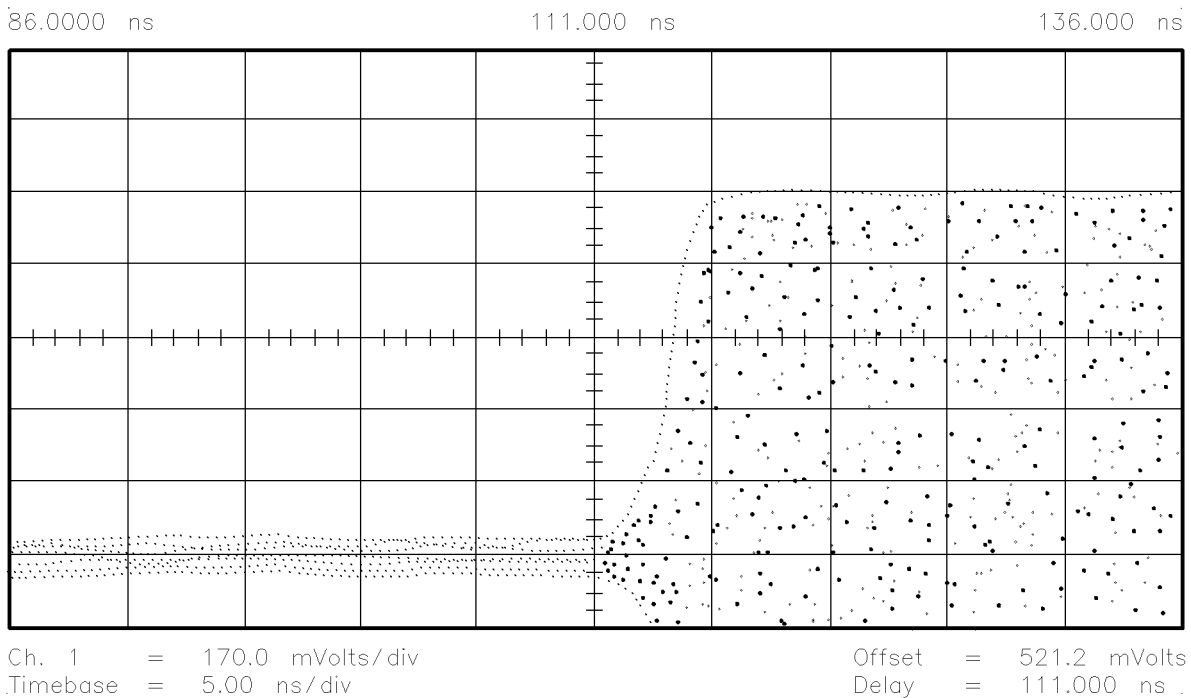

Figure 2-16. Pulse Envelope Displayed Over 5 Divisions
- b. Adjust the channel 3 volts/division and offset to obtain a 5 division signal level between the RF power off and the RF power on. (See Figure 2-16.)